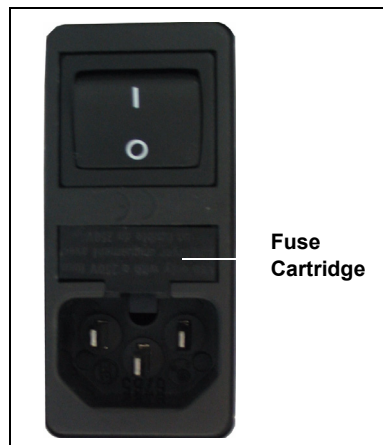

Figure 9-11. DP/SP Fuse Cartridge
5. The fuse cartridge is located next to the main power switch (see Figure 9-11). Use a small screwdriver to remove the fuse cartridge.